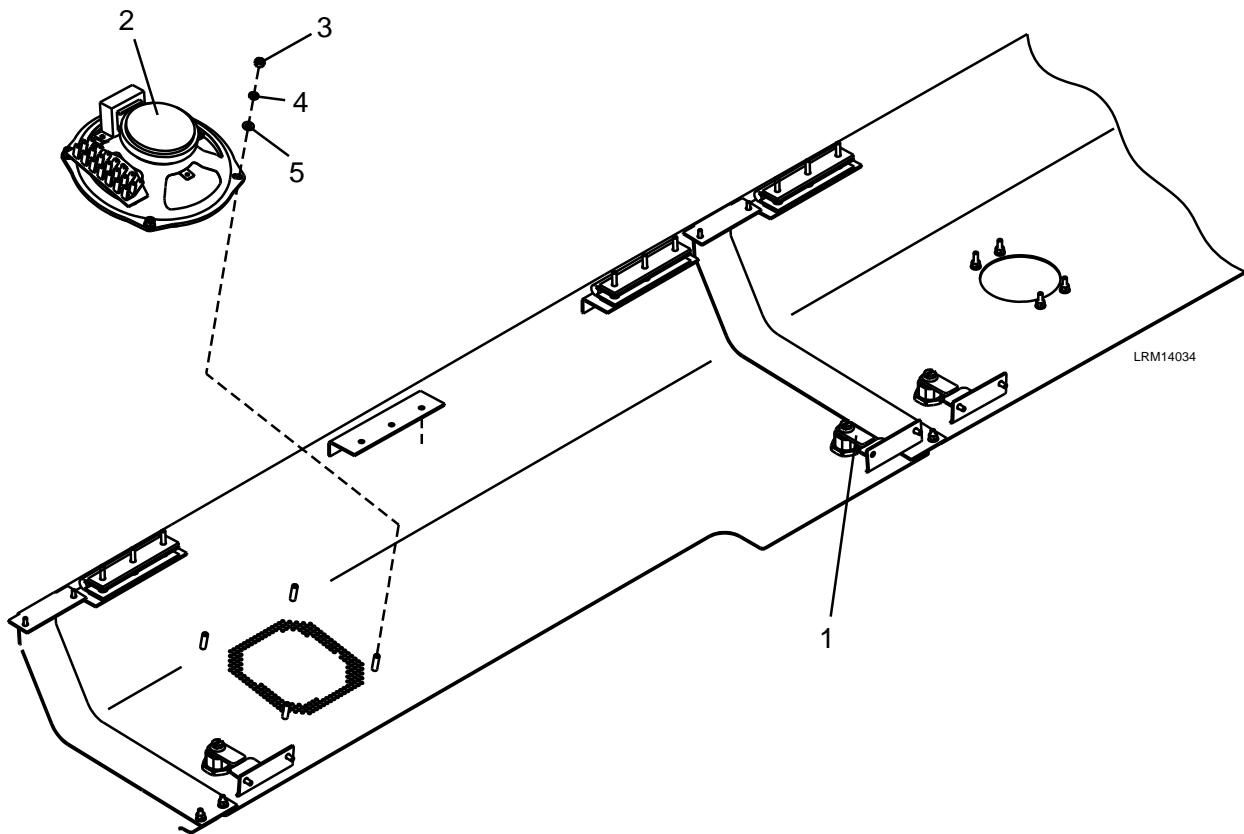

Figure 7-21: Interior 6" Speaker
2. Disconnect the Faston connectors from the Interior Speaker (2). See Figure 7-21.
3. Remove the four M5 nuts (3), M5 lock washers (4) and M5 plain washers (5).
4. Remove the Interior Speaker (2).